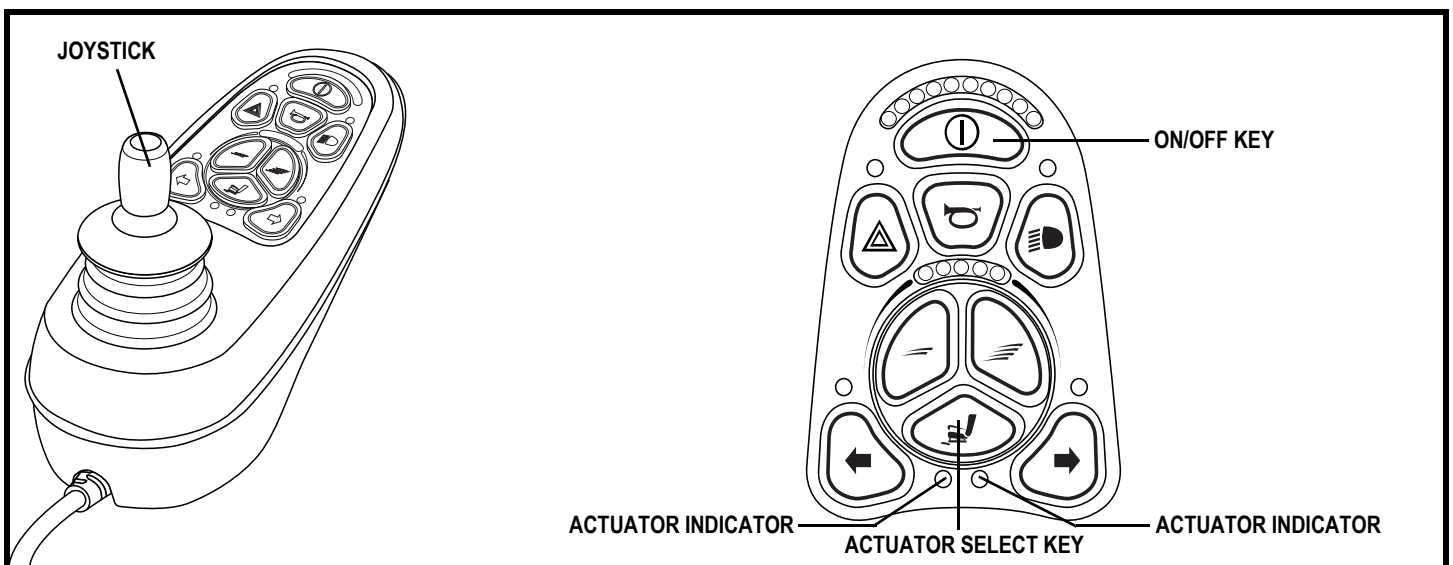

Figure 12. VR2 9-key Controller and Keypad
1. Push the on/off key to power on the chair and the controller. See figure 12.
2. Push the actuator select key to select actuator mode. The left actuator light will illuminate. See figure 12. While the left actuator light is illuminated, use the switch box as a toggle to select power tilt or power recline.
5. Push the on/off key to return to drive mode. See figure 12.